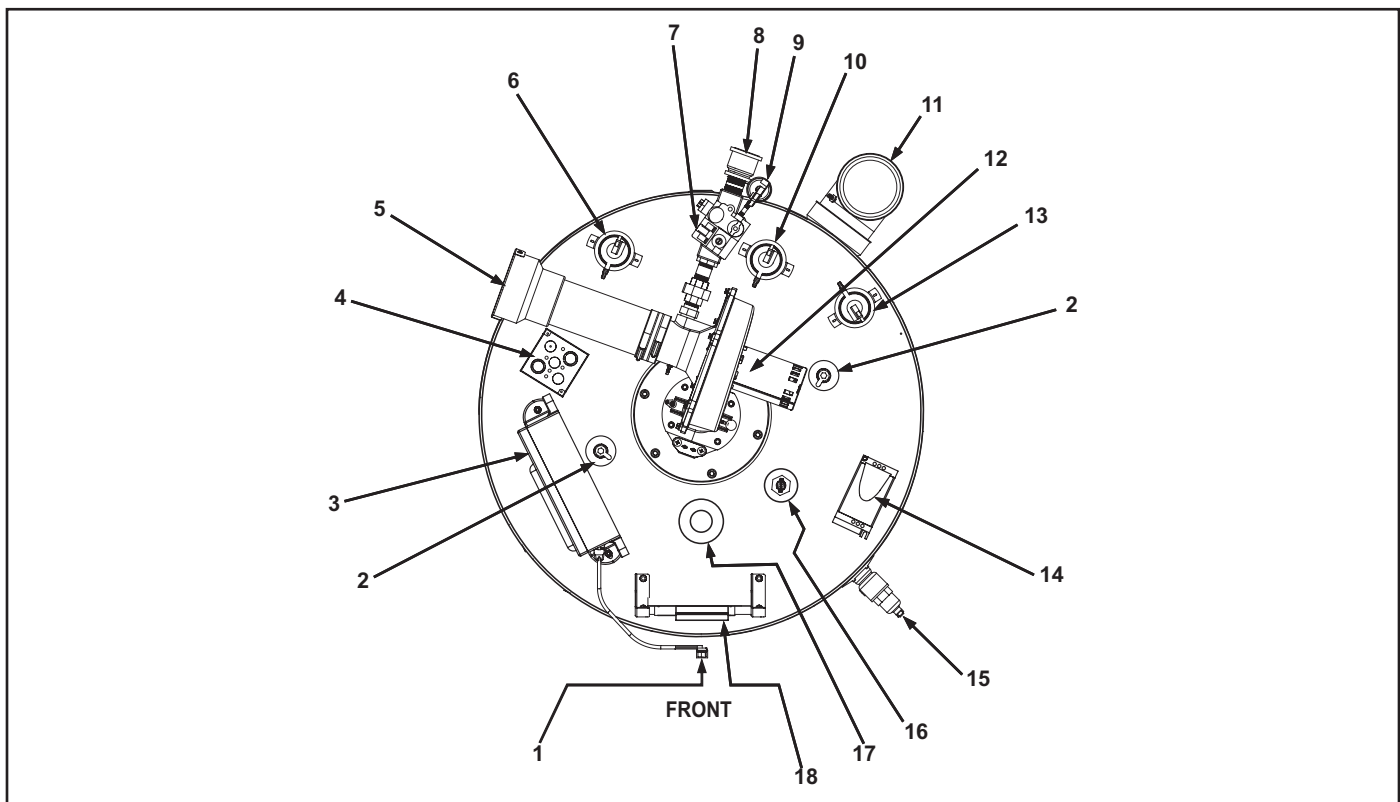

Figure 3
2. CCB enclosure - see Figure 3 on page 8 for description.
6. Low Gas Pressure switch, see description under Figure 3 on page 8. See Table 3 and the Gas Pressure Requirements on page 13.
9. VFD (variable frequency drive) blower motor drive - - see Figure 3 on page 8 for description.